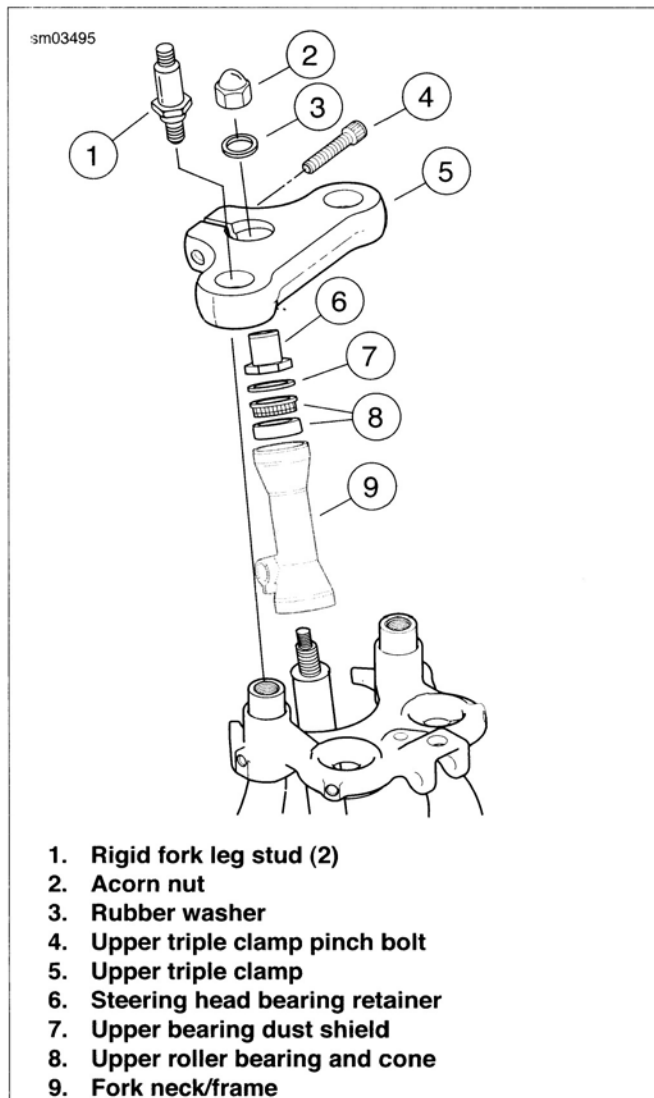

Figure 2-68. Steering Head/Fork Stem Assembly
6. See Figure 2-68. Remove fork stem acorn nut (2) and rubber washer (3). Loosen the upper triple clamp pinch bolt (4).
7. Remove the rigid fork leg studs (1).
8. Remove upper triple clamp (5).
9. Remove steering head bearing retainer (6) and upper bearing dust shield (7).
2. See Figure 2-68. Install upper bearing dust shield (7) and steering head bearing retainer (6).
3. Seat steering head bearing by tightening bearing retainer (6) to 20-25 ft-lbs (27.1-33.9 Nm). Loosen and then re-torque bearing retainer to 120-144 **in-lbs** (13.6-16.3 Nm).
4. Place upper triple clamp (5) in position on stem and rigid fork legs.